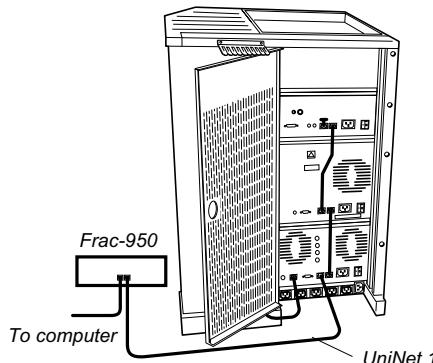

Figure 2-15. Connecting Frac-950 UniNet 1 to an ÄKTAexplorer system
- 2 Run a new UniNet 1 cable (included) from the ÄKTAdesign system to one of the **UniNet 1** connectors in Frac-950. The example in Figure 2-15 shows connection to an ÄKTAexplorer system.